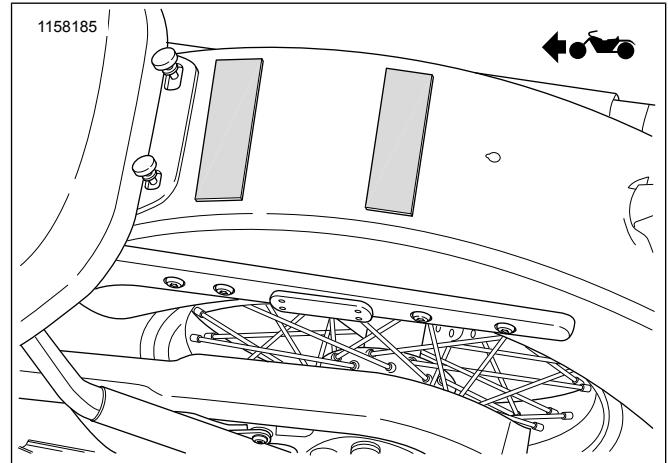

Figure 1. Anti-abrasion Tape Placement
1. See Figure 1. Cut anti-abrasion tape into two pieces, trim to width of rear fender and apply.